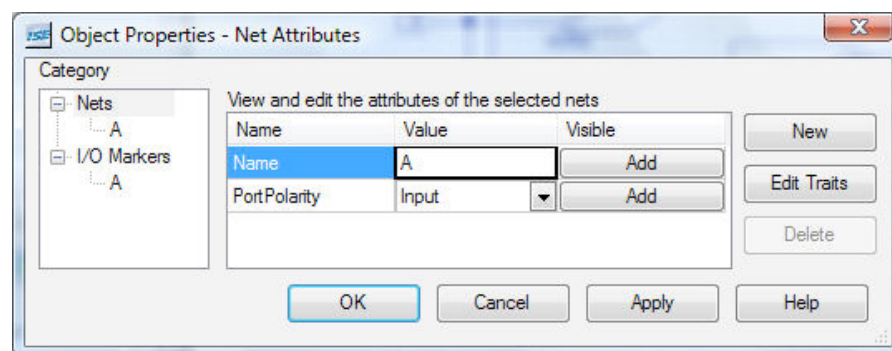

Figure 5. Change Pad Name
- You may change the label of each I/O port by double clicking on an I/O name and typing a new name in the place indicated in Figure 5.